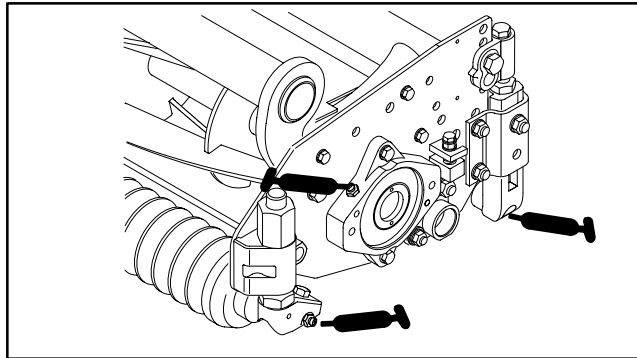

Figure 34
Each cutting unit has (6) grease fittings (Fig. 34) that must be lubricated regularly with No. 2 General Purpose Lithium Base Grease.
The grease fitting locations shown in figure 34 are for each side of cutting unit.